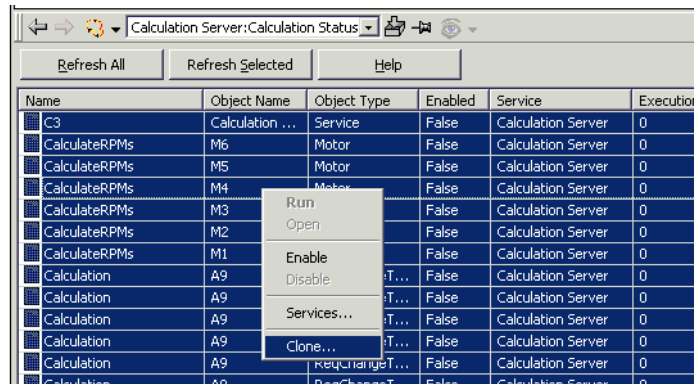

Figure 68. Calculation Status View
- 3. Using the Calculation Status Viewer, select the group of calculations to be modified with the change. Be sure to include the source calculation in the selected set. Then right click on the Calculation Status Viewer list and choose **Clone** from the context menu, Figure 68.